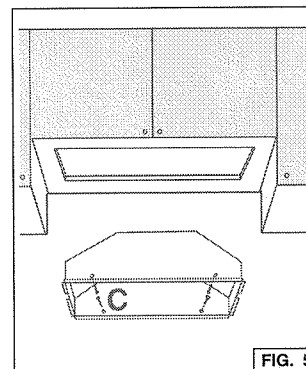
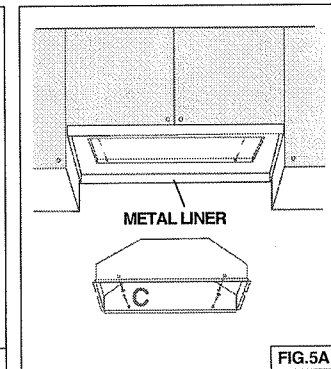

FIG. 5
FIG. 5A
4. **NOTE:** For installations where the Power Pack is less than 30" above cook top, it is recommended that the Power Pack be mounted into a metal liner or non-combustible material. This will allow easier cleaning and provide protection to the cabinetry (Fig. 5A).
6. Insert the hood in the cabinet (Fig. 5) or metal liner (Fig. 5A) and secure with the (4) "C" mounting sheet metal screws.
(Fig. 5 - wood bottom installation; recommended thickness 1/2"-3/4").